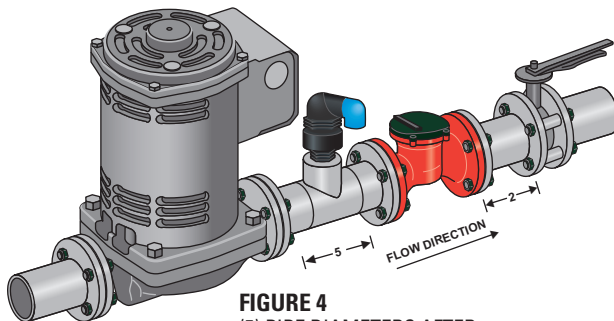

FIGURE 4
- Five (5) diameters of straight pipe downstream of a pump (before the meter) and Two (2) diameters of straight pipe downstream of the meter are required. (See Figure 4)